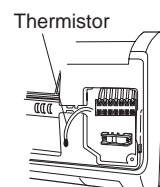

Fig. 10b
- (4) Take out the thermistor from the grille. (Fig. 10b)